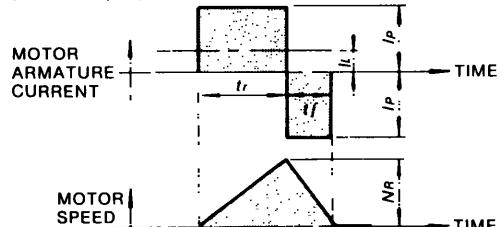

Fig. 4 2 Timing Chart of Motor Armature Current and Speed
- When the motor repeats rated-speed operation and being at standstill (Fig 4 3)